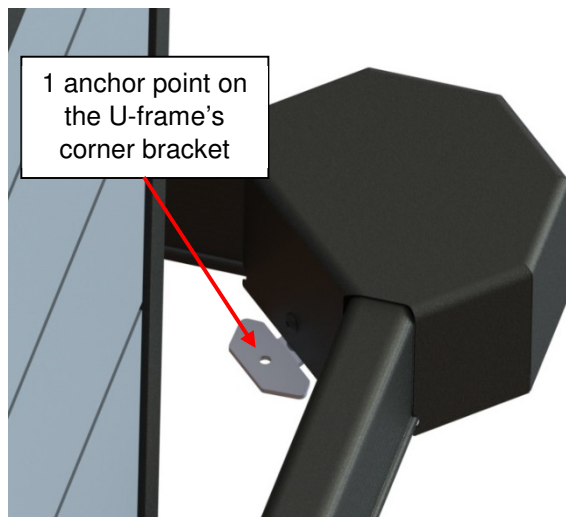

Figure 100
- 1) Locate the two wiper brackets that are provided in the boxes. (Figure 100)
- 2) Peel back siding of the double-sided tape of one wiper bracket. (Figure 100)